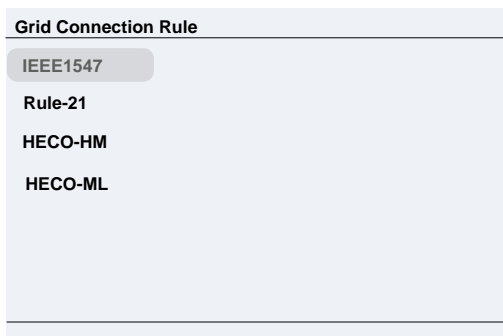

Figure 3.1 - Select Grid Standard; ML-Molokai/Lanai; OHM- O`ahu, Maui, and Hawai`i
- (a) When the inverter completes “sys checking”, the LCD shows the screen as Figure 3.1 below. Press ENTER to the standard selection interface, as shown in Figure 3.1.